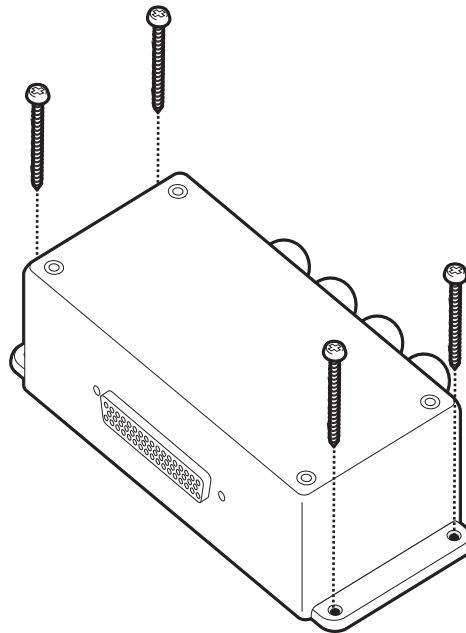

Figure 41 Mounting the junction box
- The transceiver is supplied with four self tapping screws for attachment of the junction box to a suitable surface. Please refer to Figure 41 for guidance.